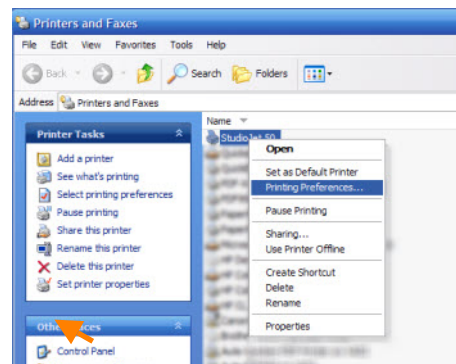

Figure 4.1: Accessing Printer Properties
1. Through the start menu by clicking **Start**, then **Printers & Faxes**, and then right-clicking on **Printing Preferences** (Figure 4.1).